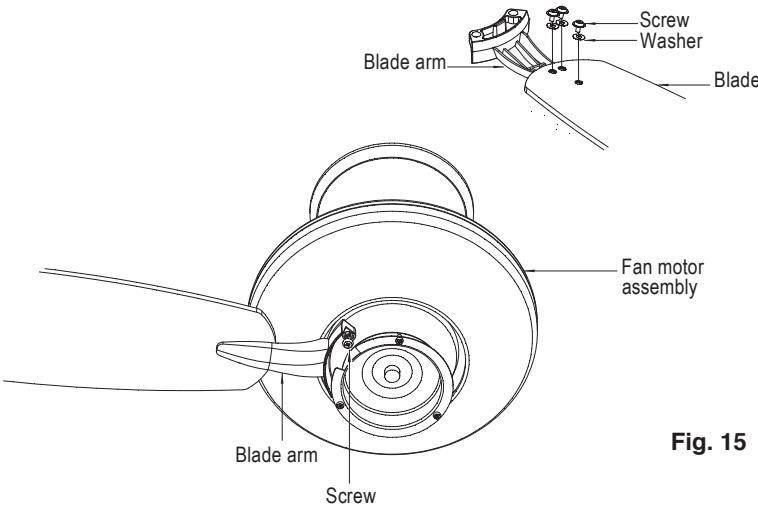

Fig. 15
**Step 1.** Attach the blade to the blade bracket using the screws and washers as shown in Figure 15. Start screw into bracket. Repeat for the two remaining screws.